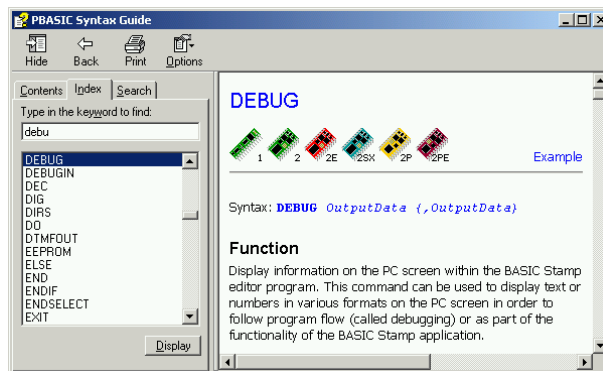

Figure 1-47
- ✓ Type **DEBUG** into the field labeled Type in the keyword to find: (shown in Figure 1-47).